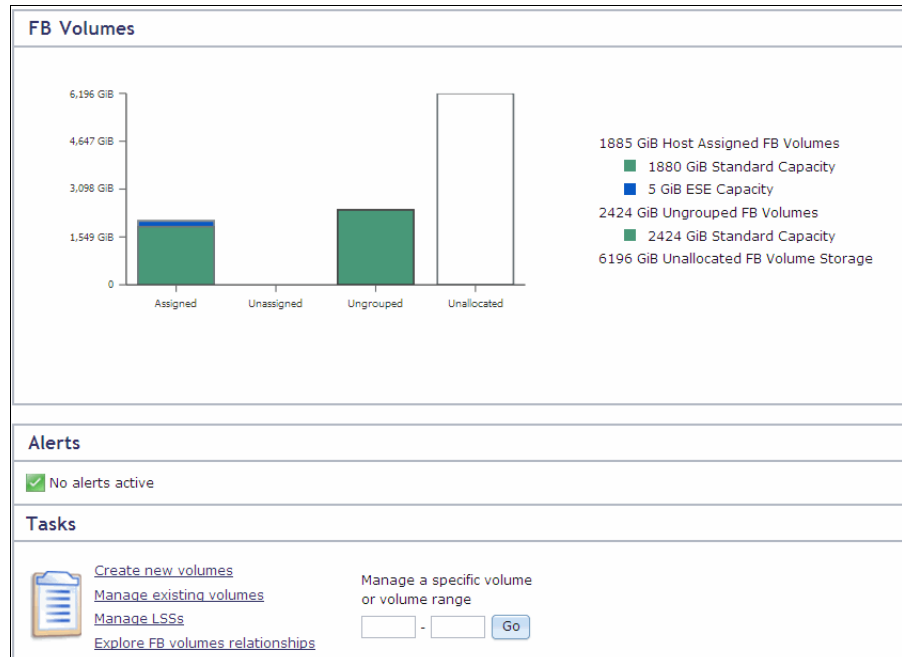

Figure 13-43 FB Volumes summary window
1. Hover over **Volumes** and select **FB Volumes**. The FB Volumes Summary window shown in Figure 13-43 displays.